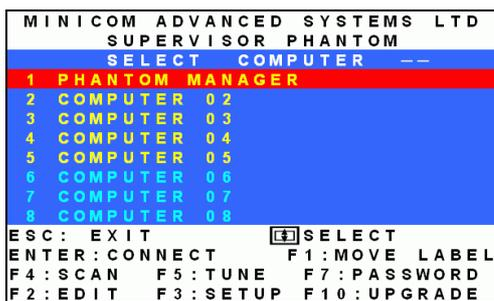

Figure 3-10
5. Press **Esc** to save and return to the Select Computer window. The Remote computers appear on the OSD. See Figure 3-10.